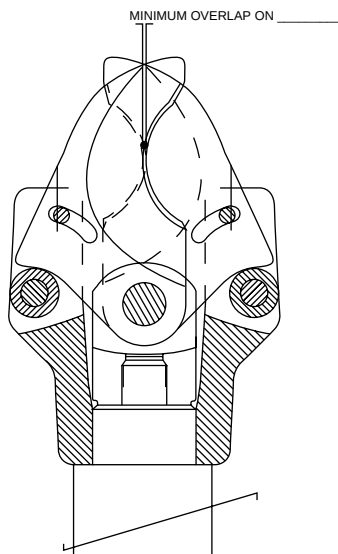

Figure 2
7. Check for a minimum blade overlap of 0.030 inches on centerline prior to the end of the ram stroke. See Figure 2.